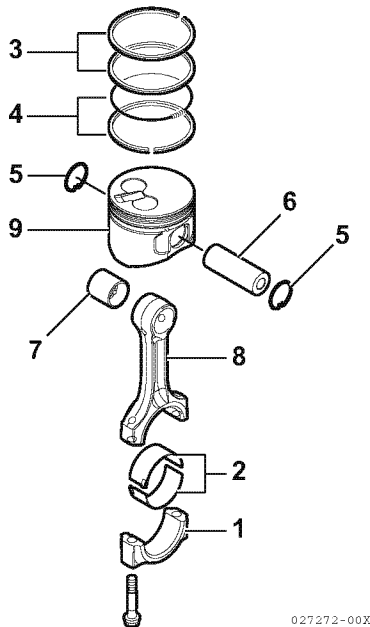

Figure 6-80
2. If removed, install a new wrist pin bushing (**Figure 6-80, (7)**) using a press and the appropriate service tool. Be sure to align the oil holes.
3. Install one circlip (**Figure 6-80, (5)**) into the piston. Ensure the circlip is securely seated in the groove.